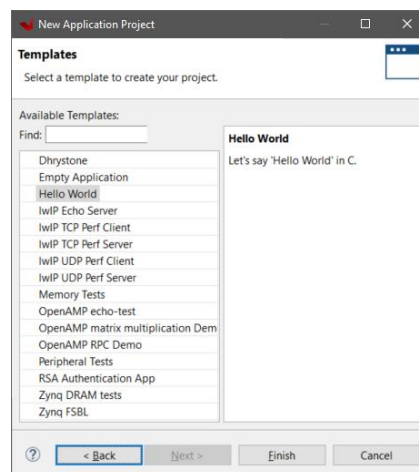

Figure 21
7. In the **Templates** page, select **Hello World** from the list of **Available Templates:** and click **Finish** (Figure 21)